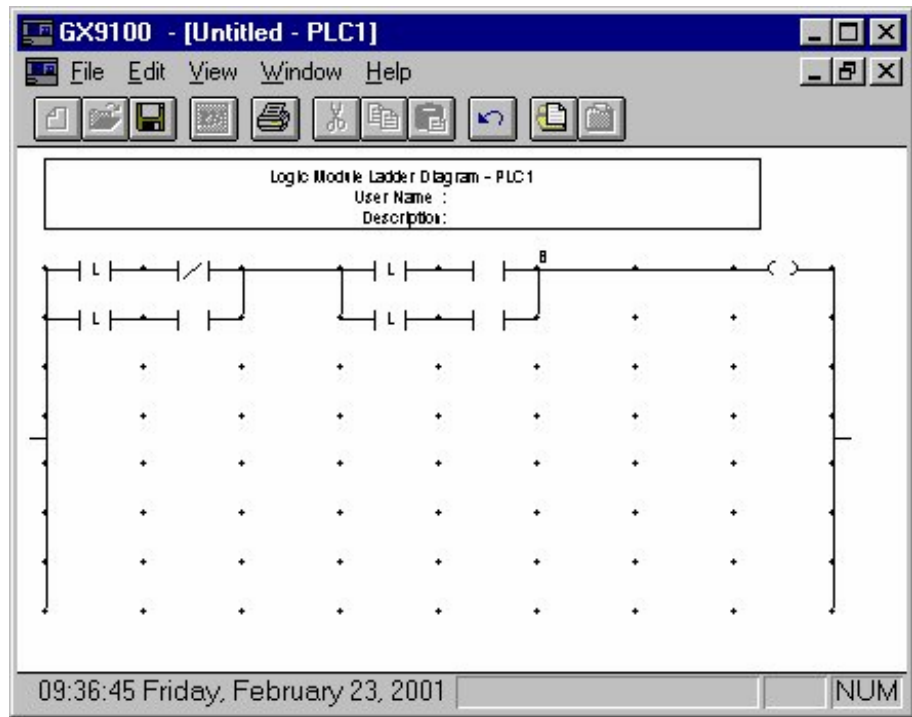

Figure 5-5: Example of a Logic Block within a Line
4. Add instructions after the LOAD or LOAD NOT instruction (Figure 5-5).